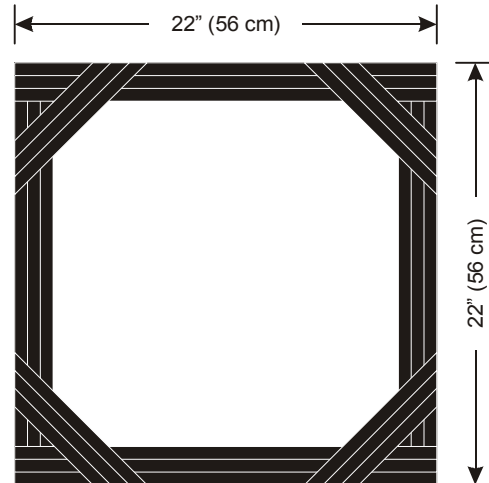

Figure 7-9
- ✓ Build a course similar to the electrical tape delimited course shown in Figure 7-9. Use at least three strips of electrical tape, edge to edge with no paper visible between the strips.